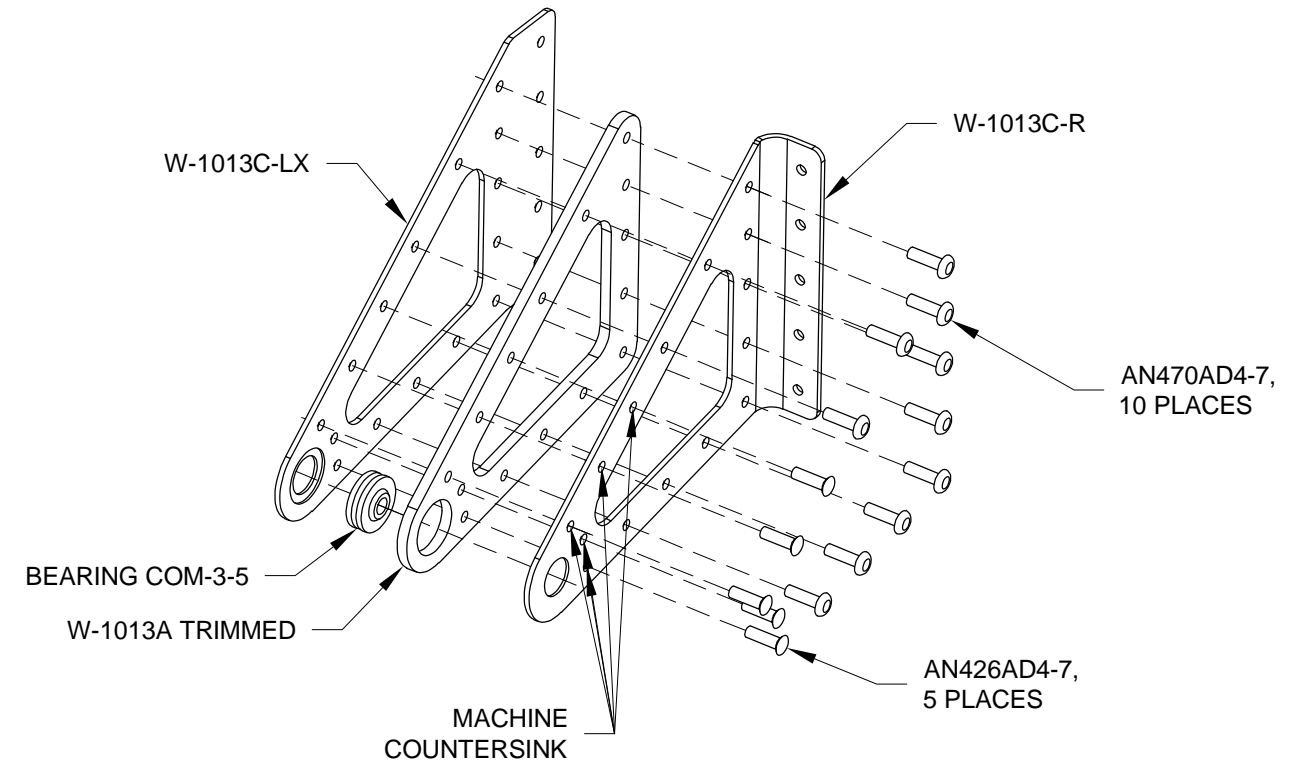

FIGURE 2: W-1014-L OUTBOARD AILERON BRACKET ASSEMBLY
Step 2: Cleco the W-1013A TRIMMED Aileron Hinge Bracket Spacer, W-1013C-LX and W-1013C-R Aileron Hinge Bracket Sides together as shown in Figure 2. Match-Drill #30 all common attach holes. Machine countersink the aft holes (as indicated in Figure 2) on the **inboard** face of the W-1013C-R Aileron Hinge Bracket Side for the head of an AN426AD4 rivet. Repeat this process for the right outboard aileron bracket assembly.
Step 4: Press a BEARING COM-3-5 into both W-1013A TRIMMED Aileron Hinge Bracket Spacers as shown in Figure 2. Use a 7/16 inch, 3/8 inch drive socket to push and a 9/16 inch, 3/8 inch drive socket to push into. Squeeze with a vise or c-clamp.
Step 6: Rivet the assemblies together using the rivet callouts shown in Figure 2. Set the rivets in a random pattern to inhibit warping in the final assemblies. Set both the W-1014-L and W-1014-R Outboard Aileron Bracket Assemblies aside, to be installed after the W-1002 Top Inboard Wing Skin and W-1003 Top Outboard Wing Skin are riveted in place. This will allow access to buck the outboard-most rivet on the upper flange of the W-1007A-L Rear Spar Web.